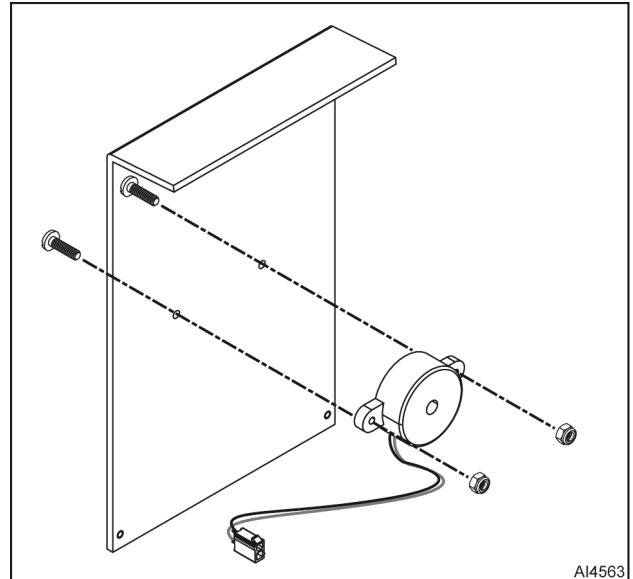

Fig. 7
5. Remove fasteners and buzzer (Fig. 7) from touch panel / display assembly cover.